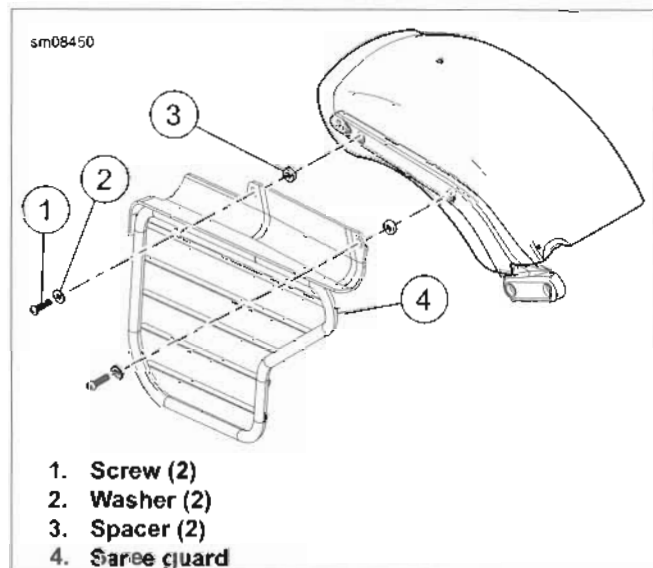

Figure 2-141. Upper Saree Guards: FXSB
1. See Figure 2-141. Remove screws (1), washers (2) and spacers (3).
2. Remove saree guard (4).
1. See Figure 2-141. Set saree guard into position.
2. Install spacers (3) between saree guard and fender.
3. Install screws (1) and washers (2). Tighten to 21-27 ft-lbs (28.5-36.6 Nm).